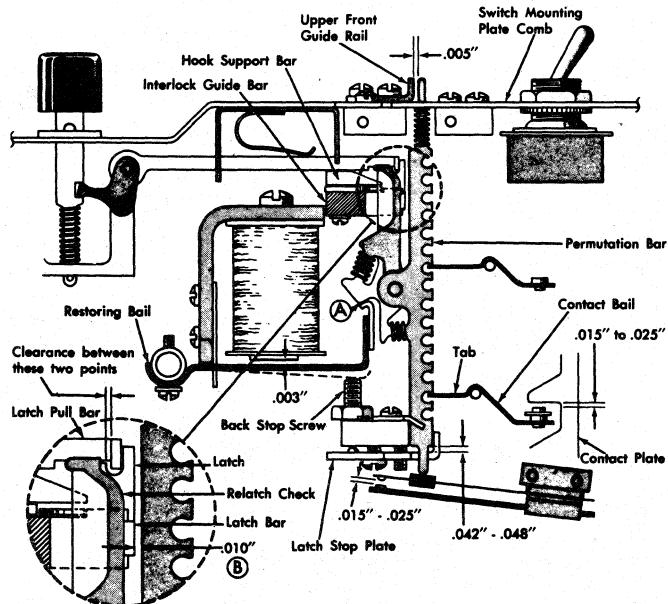
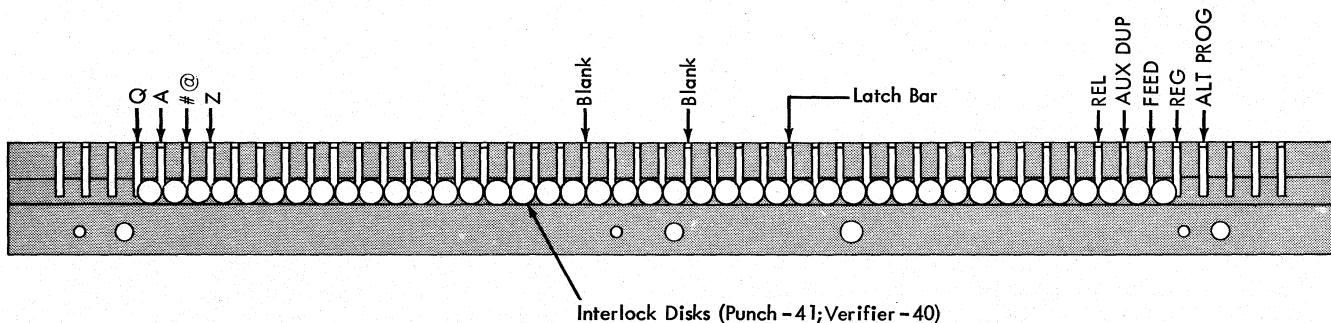
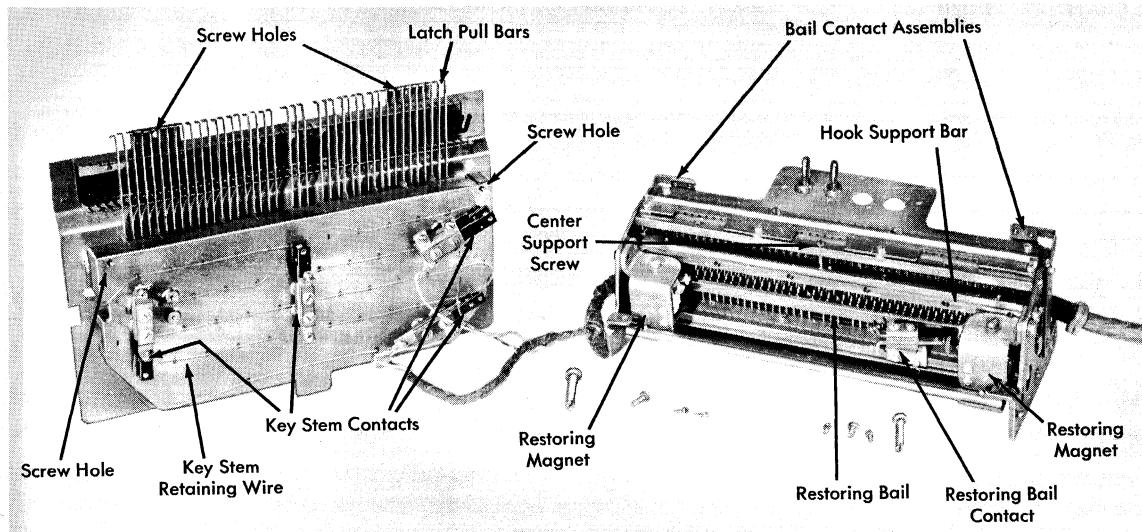

Figure 91. Keyboard Adjustment
Figure 94. Keyboard Interlock Disks
Figure 95. Keyboard Permutation Units
ADJUSTMENT (Figure 91)
1. With all latch assemblies restored, insert .003-inch gage between armature and magnet core and hold them sealed. Position magnet brackets evenly until restoring bail meets all latches at A, Figure 91. This should result in .010-inch maximum overtravel of latching point with gage removed.
2. Position comb for .010-inch, $\pm .005$ -inch, clearance between latch bar and permutation bars (B, Figure 91).
2. Position key unit evenly for clearance of latch pull bar to latch; see inset, Figure 91. Pressure of 65-grams to 85-grams should trip any key operating a latch assembly and interlock disk (except the space key which should be tripped by 85-grams to 110-grams). See Figure 94. Keys that do not operate latch assemblies should travel $\frac{5}{32}$ -inch with 55-grams to 70-grams pressure applied to them.
Key Unit. To separate keyboard into its major units, remove the four screws as shown in Figure 95. Be careful when sliding key unit out of permutation unit: the Y pull bar may hook on center support screw. It is not necessary to remove any wires if the removal is merely for inspection. Untie nylon key stop wire at end where it is fastened to permutation unit. NOTE: Do not oil or grease hook ends of latch pull bars. On reassembly, check clearance of latch to pull bar (Figure 91).
2. Lift key from unit while end of latch pull rod is held up and clear of latch. Be careful that key stem spring does not drop into unit. Refer to Figure 91.
2. Remove wires from all key stem contacts and the two restoring magnets (Figure 95).
11. Remove center support screw from upper latch assembly guide (Figure 95).
12. Set unit on its back. Hold hook support bar (Figure 95) while removing the three screws that hold it. Also, remove pivot screw.
not interlocked. Figure 94 shows the correct position of the 41 interlock disks for the IBM 24-26 keyboard. A numeric keyboard has 17 interlock disks.
4. Replace top plate and key stems. Check clearance of latch to pull bar (Figure 91).